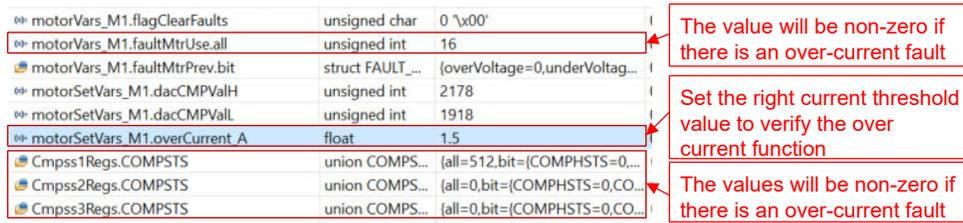

Figure 3-34. Build Level 2: Current Protection Setting
8. Verify the over current fault protection by decreasing the value of the variable *motorVars_M1.overCurrent_A*, the over current protection is implemented by the CMPSS modules. The over current fault will be trigger if the *motorVars_M1.overCurrent_A* is set to a value less than the motor phase current actual value, the PWM output will be disabled, the *motorVars_M1.flagEnableRunAndIdentify* is cleared to 0, and the *motorVars_M1.faultMtrUse.all* will be set to 0x10 (16) as shown in Figure 3-34.
Adjust the value of *motorVars_M1.overCurrent_A* in Expression window to trigger the over current fault as shown in Figure 3-34.